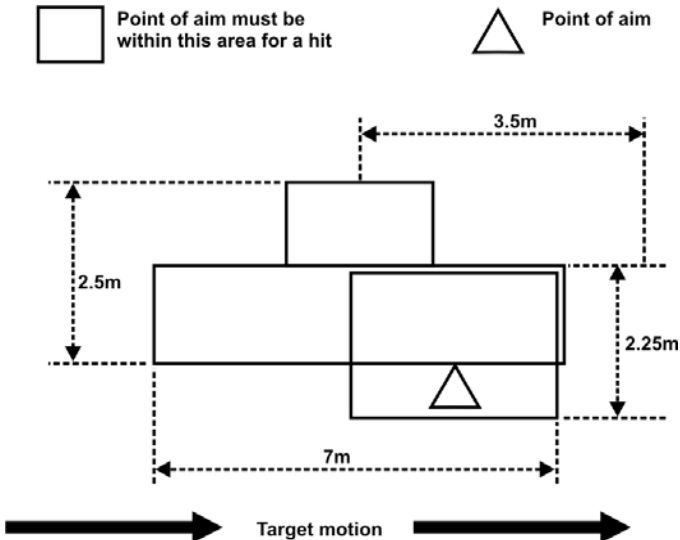

Figure 6-2: Cruise Phase Minimum Standards
41. During cruise phase, gunners must maintain the sight on the point of aim. Movement of the sight outside of the minimum standard will result in a miss (see Figure 6-2). This standard is based on the size of a main battle tank and the missile flight path.